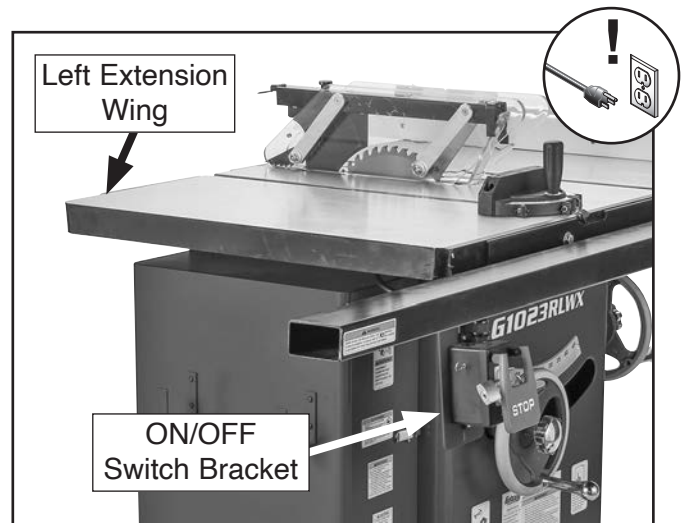

Figure 5. Location of left extension wing and switch bracket.
2. Remove extension wing from left side of saw table (see **Figure 5**).
3. Detach ON/OFF switch bracket (see **Figure 5**) from front of saw.